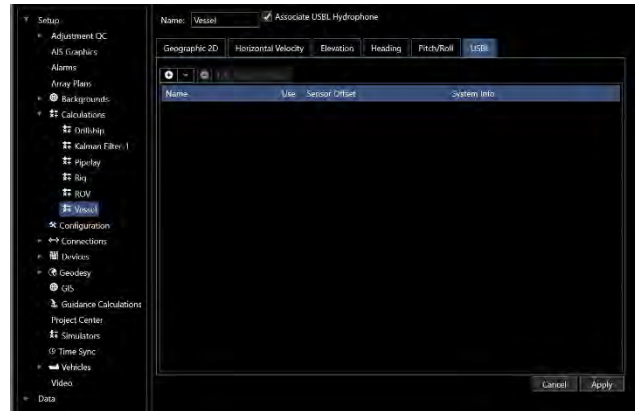

FIGURE 6-16 RIGID BODY CALCULATION - USBL HYDROPHONE OPTION
3. Check the Associate USBL Hydrophone box, this will result in a USBL tab being added (see Figure 6-16)